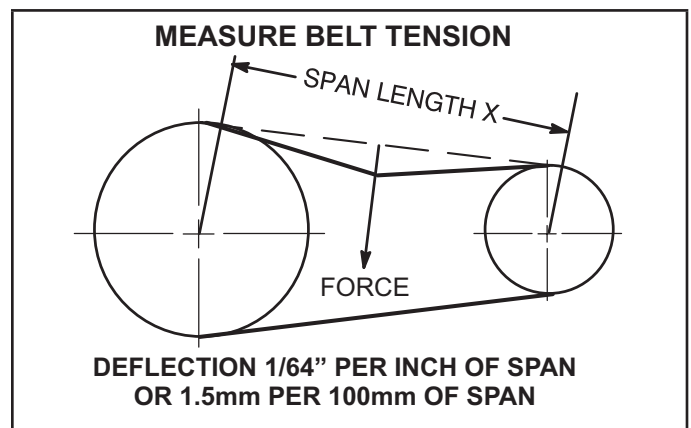

FIGURE 12
- 1 - Measure span length X. See FIGURE 12.
- 2 - Apply perpendicular force to center of span (X) with enough pressure to deflect belt $1/64$ " for every inch of span length or 1.5mm per 100mm of span length.